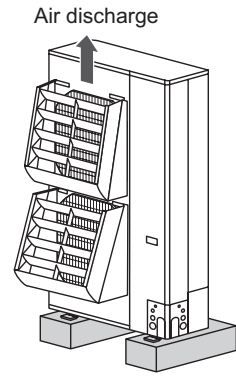

Fig. 1-14
- The air discharge outlet is facing to the sidewalk and discharged hot air annoys the passers-by. (Fig. 1-14)